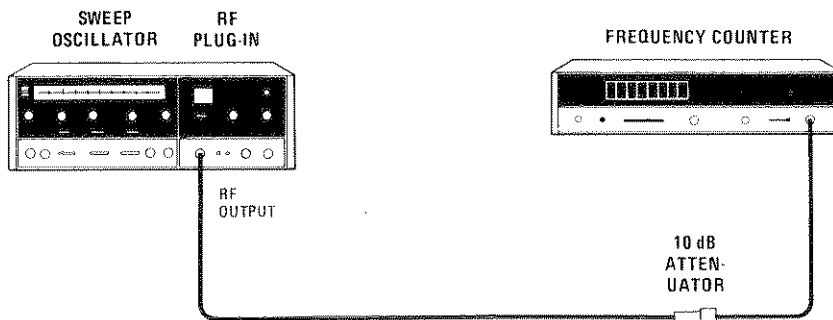

Figure 4-2. ΔF Sweep Test Setup
- Connect equipment as shown in Figure 4-2.